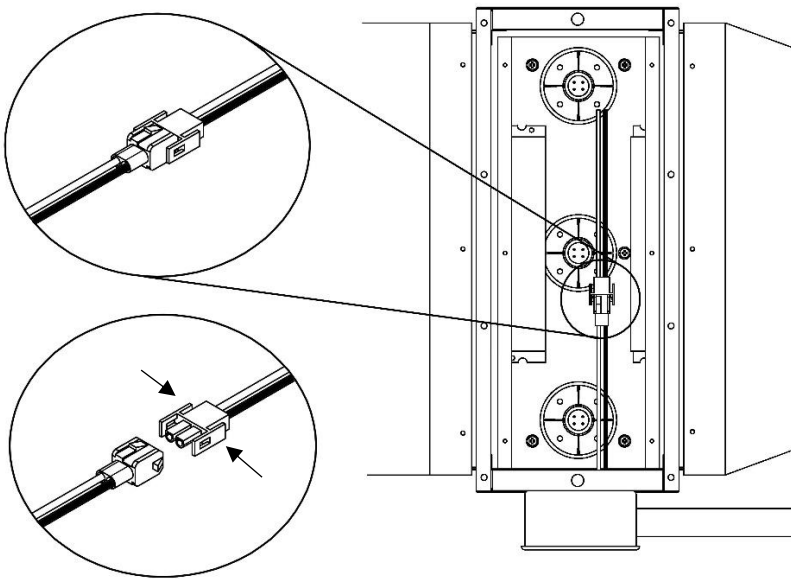
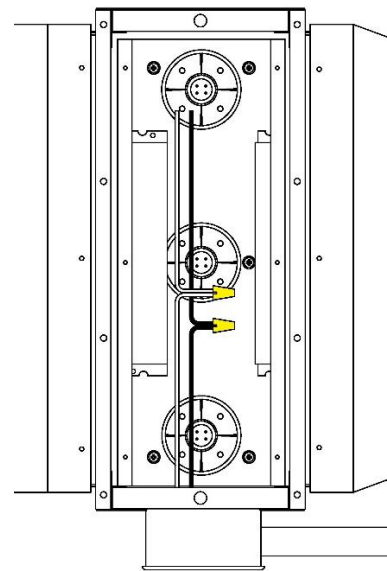

Figure 7: MOLEX Style Connection
Figure 8: Wire Nut Style Connection
- 3.) Disconnect MOLEX connectors powering catalyst panels. See Figure 7. Older models may use wire nuts. See Figure 8. Take note of when each wire is connected. They will need to be rewired in the same way once panel is put back into place.
13.) Using MOLEX connectors or wire nuts, wire catalyst panel in the same way they were originally wired. See Figures 7 and 8.
2.) Remove access cover by loosening (6) screws with a Phillips-Head screwdriver.
3.) Disconnect MOLEX connectors powering catalyst panels. See Figures 7. Older models may use wire nuts. See Figure 8. Take note of where each wire is connected. They will need to be rewired in the same way once panel is put back into place.
11.) Using MOLEX connectors or wire nuts, wire catalyst panel in the same way they were originally wired. See Figures 7 and 8.